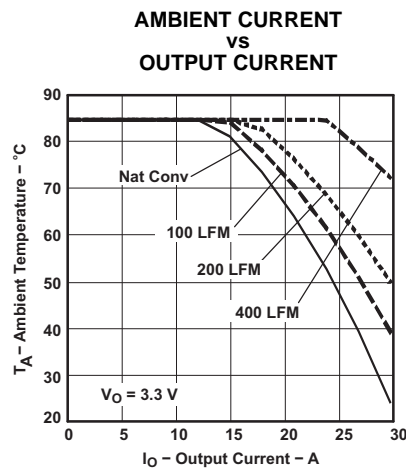
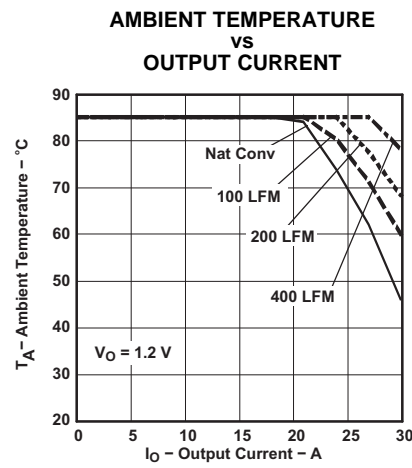

Figure 4.
Figure 5.
- (2) The temperature derating curves represent the conditions at which internal components are at or below the manufacturer's maximum operating temperatures. Derating limits apply to modules soldered directly to a 100 mm x 100 mm double-sided PCB with 2 oz. copper. Applies to Figure 5 and Figure 4.